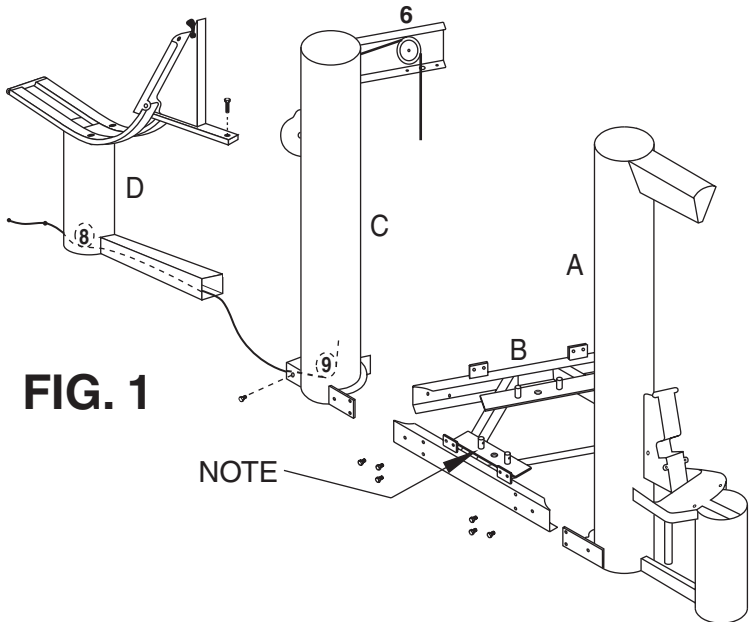

FIG. 1
3. Assemble main column (A) to main triangle frame (B) (3/8-16 X 3/4 hex screws, Qty: 6). **Note: Press station guide rod locator tubes (the ones with cross holes) face front.** Now assemble the Ab/Row column (C) to the main triangle frame (B) (3/8-16 x 3/4 hex screws, Qty: 6). The row seat adjustment mechanism—upper portion of ab/leg seat column (D)—is shipped almost entirely assembled. To complete this assembly pull E-ring off of clevis pin with pliers, and remove clevis pin. Now rotate mechanism into position, and reinstall clevis pin and E-ring. *Ensure that the cable exiting the bottom of the ab/row column (C) goes around the associated pulley (#9) and leaves the column through the large square opening. Take this cable and thread it into the large square tube at the base of the ab/leg seat column (D). This cable passes under pulley #8 and exits through the slot in the front of the column. Note: this cable will be easiest to route if the ab/leg seat column (D) is lying on its side to allow easy access to the area below pulley #8. Now attach the ab/leg seat column (D) to the ab/row column (C) (3/8-16 x 3/4 hex screws, Qty: 2, and 3/8-16 x 1-1/2 hex screw, Qty: 1). **IMPORTANT: VERIFY THAT THE CABLE ROUTING IS CORRECT BETWEEN PULLEYS #8 & #9 BEFORE PROCEEDING. FIG. 1**